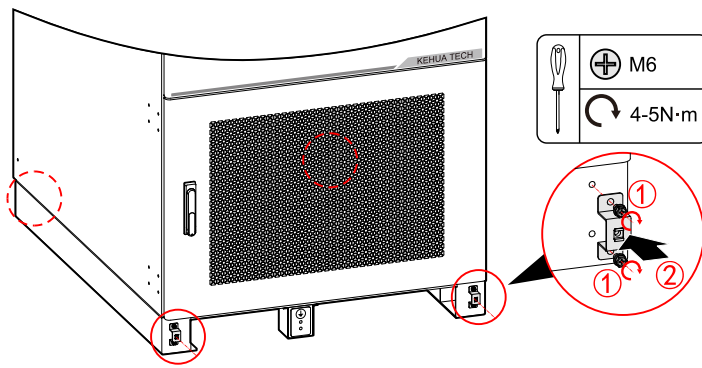

Figure4-5 Install the fasten parts of cover plate
Step 2 Install the fasten parts of cover plate, as shown in Figure4-5.